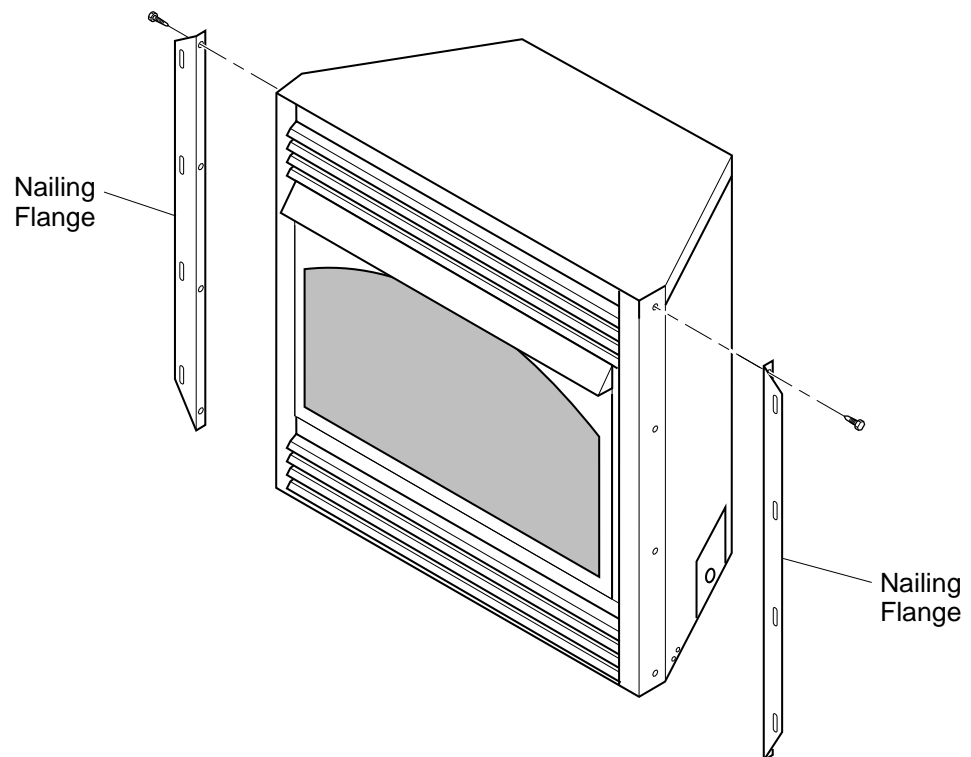

Figure 13 - Attaching Nailing Flange Accessory
4. Attach nailing flange accessory to each side of fireplace (see Figure 13). See *Accessories*, page 33 for nailing flange.